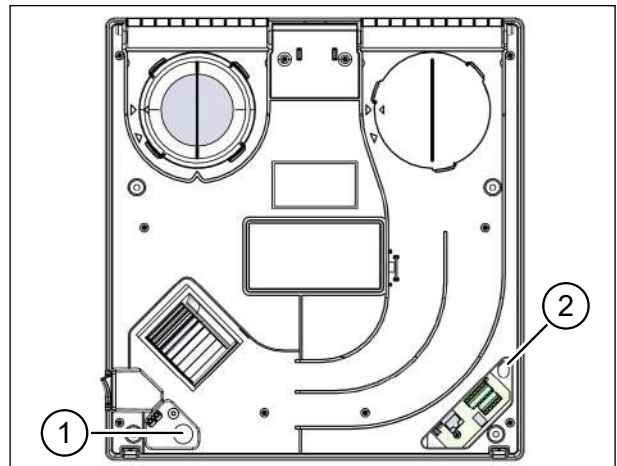

Fig. 36: Threading in the mains cable and control cable (if used)
- ▶ Thread the mains cable into the opening (item 1 in Fig. 36) on the ventilation unit and pull the cable through the opening.
- ▶ Thread the control cable (if used) into the opening (item 2 in Fig. 36) on the ventilation unit and pull the cable through the opening.